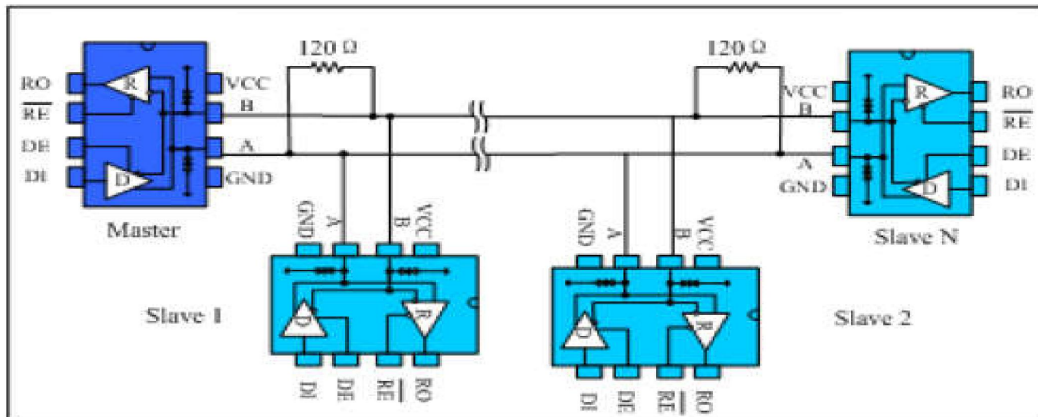

Fig. 9 Bus-type RS485 half-duplex communication network
**4.1 Bus networking:** The MAX1487ESA-TD RS485 transceiver is designed for bidirectional data communication on multi-point bus transmission lines. Figure 9 shows a typical network application circuit. These devices can also be used